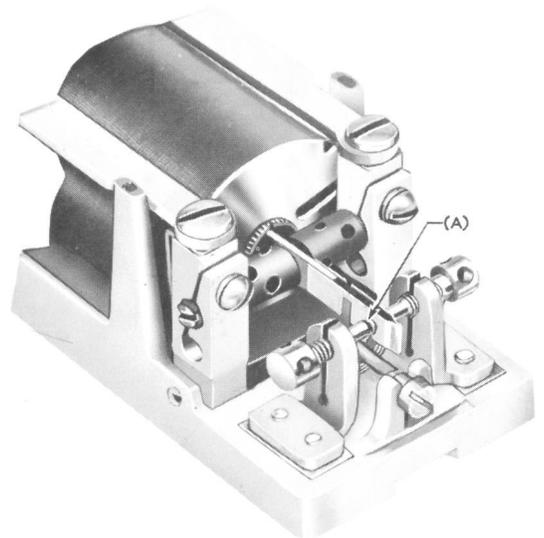

Fig. 2 — 280-Type Relay
1.05 **Contact Travel:** Fig. 2(A) — Min 0.004 inch, max 0.006 inch. Check travel on each contact screw. A difference indicates buildup on contact on side of armature having smaller travel. Remove buildup. 74D gauge.